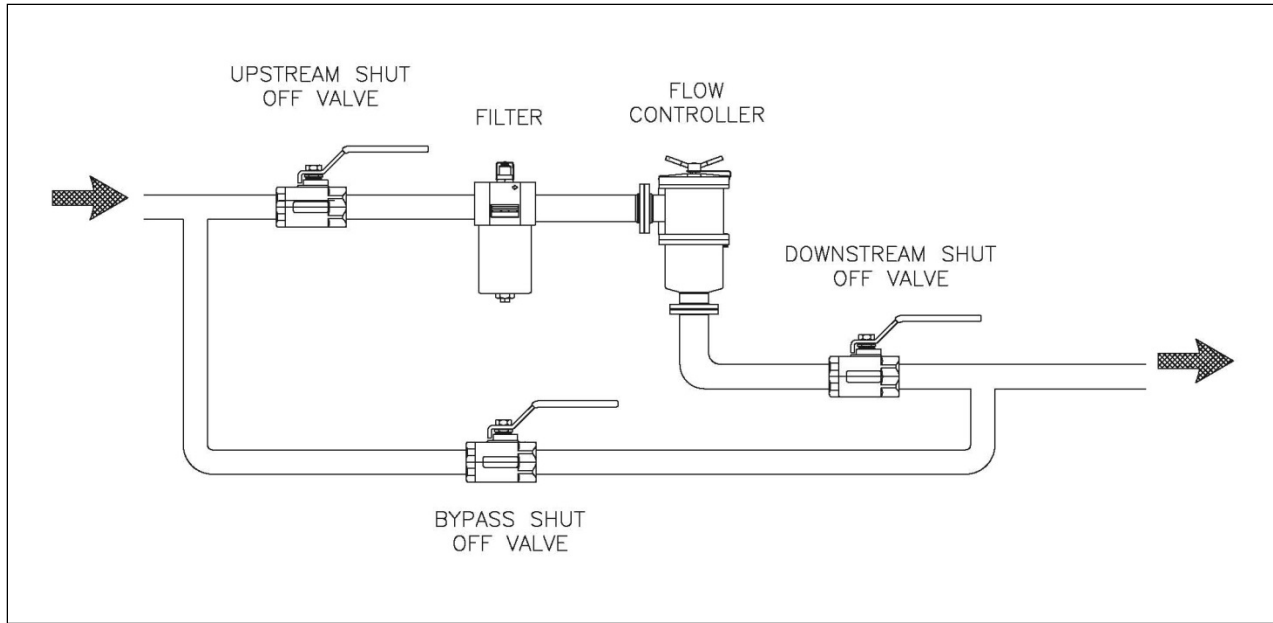

Figure 2
2. Upstream and downstream shutoff valves and a bypass valve should be installed so that the controller may be opened for inspection and cleaning without requiring complete system shutdown.(See figure 2)
5. Place the controller in service by opening upstream and downstream shut off valves and closing the bypass valve around the controller. Use caution; during start-up, open valves slowly to avoid pressure surges. The controller will now regulate the flow rate at the set value. (See figure 2)
2. It is not necessary to remove the controller from the line to clean. If installation includes proper shutoff and bypass valves, operate these and take the controller off stream or control. (See figure 2)
2. To replace the thrust washer and O-ring, take the controller off stream or control. (see fig. 2) Remove the bonnet then remove the roll pin in the adjuster bar and lift off the adjuster bar assembly. The adjuster shaft can now be removed by pulling it through the bonnet from the inside.